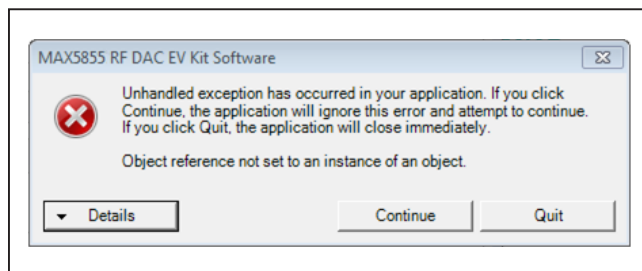

Figure 19. Exception Window
- 4) If an "Exception" window opens (see Figure 19), simply click the <OK> button to continue